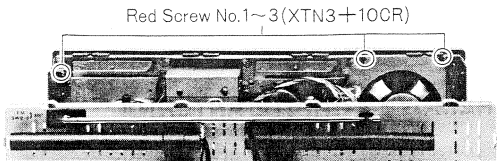

Fig. 16
- 4. Remove the eleven (11) knobs.
- 5. Remove the three (3) red screws (nos. 1~3) for the front panel, as shown in fig. 16.